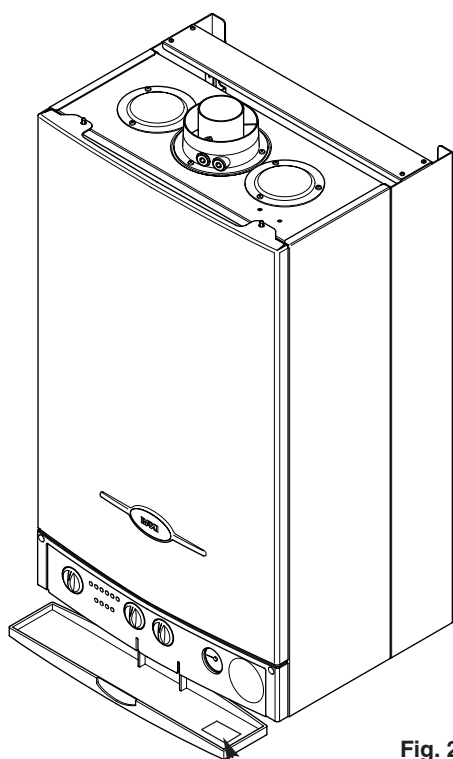

Fig. 23
3. The name, model number and serial number can be found on the information label on the back of the hinged lower door (Fig. 23).